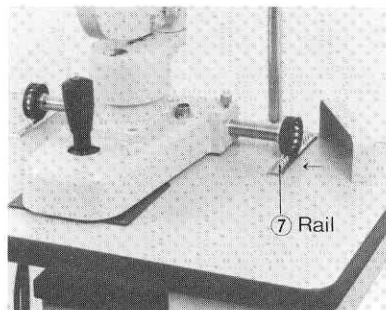

Fig. 17
Next, insert the rail covers⑧ in place, over the rails. Insert the flange, on the base of the cover, between the slight opening which exists between the rail and the surface of the table. (See Fig. 17)